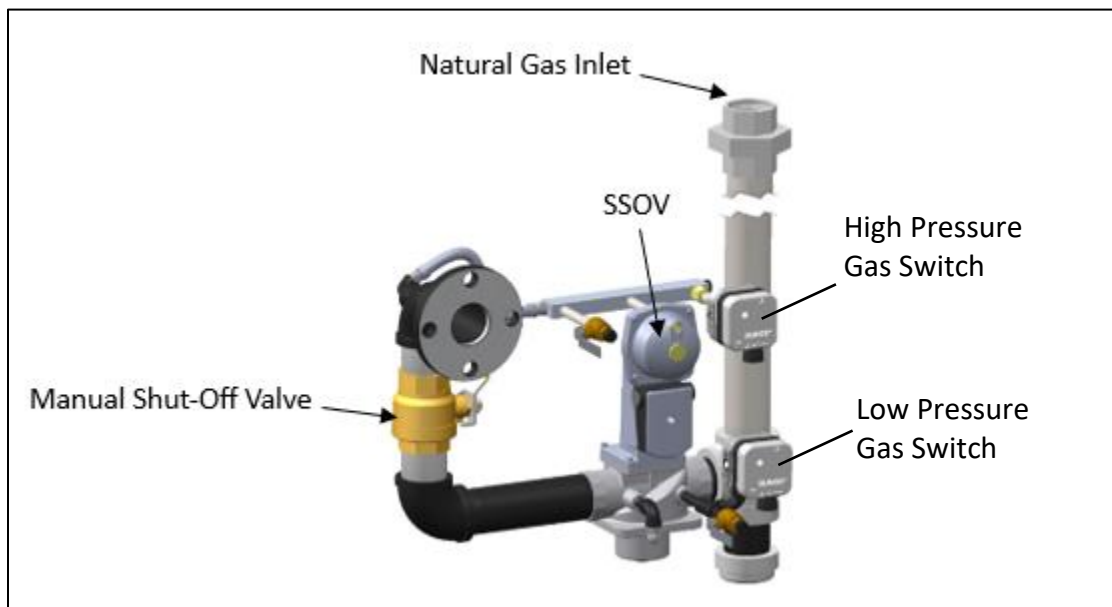

Figure 3-1: SSOV Location (P/N 22490 shown)
2. The unit checks all five pre-purge safety switches listed at the beginning of this section. The Edge Controller's ignition sequence screen walks you through the ignition screens and demonstrates (or highlights) which switches are not met. SSOV locations are shown in Figure 3-1.